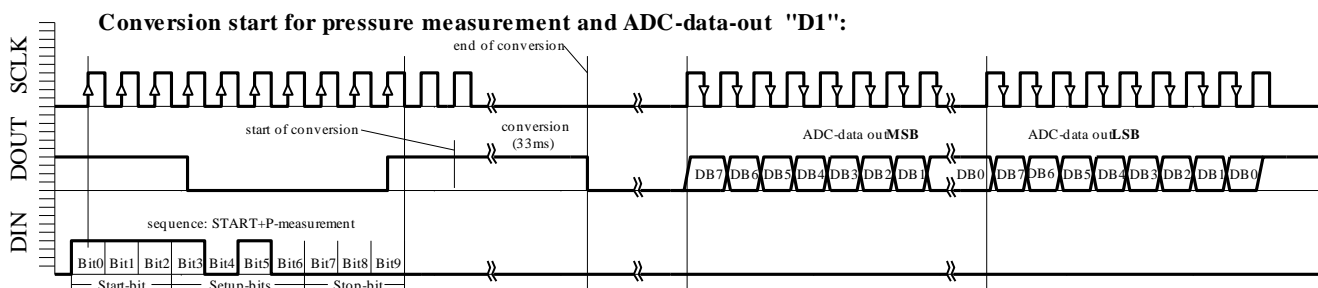

Fig. 6a: D1 ACQUISITION sequence
- ✦ Conversion start for pressure measurement and ADC-data-out "D1" (Figure 6a)